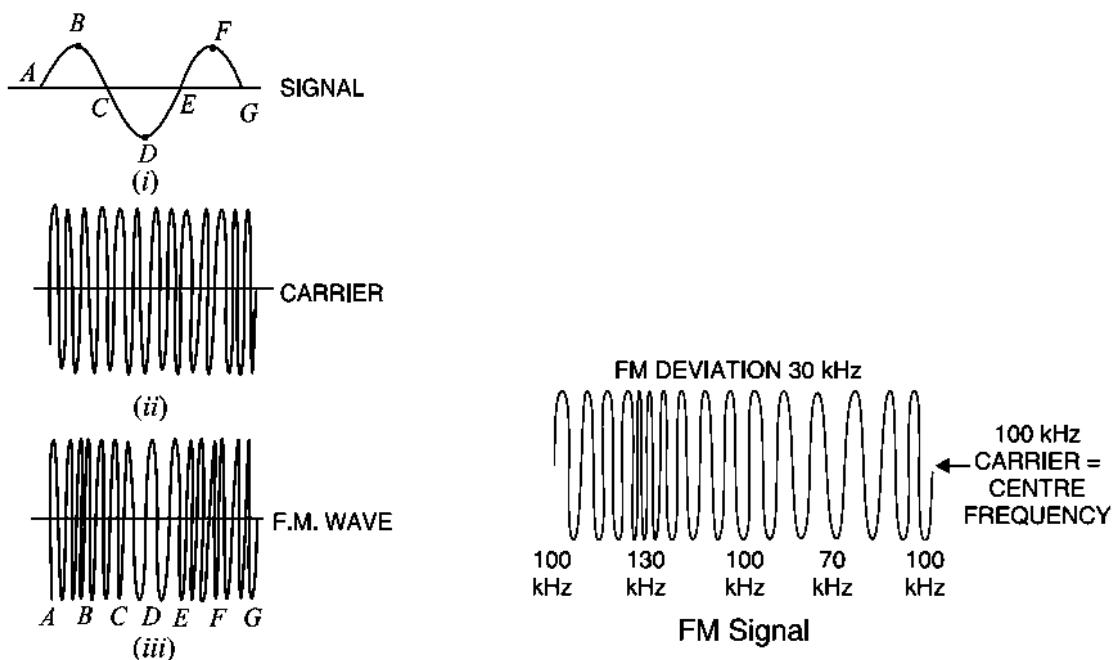

Figure 5-2. Frequency Modulation of waves.
In frequency modulation, only the frequency of the carrier wave is changed in accordance with the signal. However, the amplitude of the modulated wave remains the same *i.e.* carrier wave amplitude. The frequency variations of carrier wave depend upon the instantaneous amplitude of the signal as shown in Figure 5-2 (iii). When the signal voltage is zero as at A, C, E and G, the carrier frequency is unchanged. When the signal approaches its positive peaks as at B and F, the
The process of frequency modulation (FM) can be made more illustrative if we consider numerical values. Figure 5-2 shows the FM signal having carrier frequency $f_c = 100$ kHz. Note that FM signal has constant amplitude but varying frequencies above and below the carrier frequency of 100 kHz ($= f_c$). For this reason, f_c ($= 100$ kHz) is called *centre frequency*. The changes in the carrier frequency are produced by the audio-modulating signal. The amount of change in frequency from f_c ($= 100$ kHz) or *frequency deviation* depends upon the amplitude of the audio-modulating signal. The frequency deviation increases with the increase in the modulating signal and viceversa. Thus the peak audio voltage will produce maximum frequency deviation. Referring to Figure 5-2, the centre frequency is 100 kHz and the maximum frequency deviation is 30 kHz.